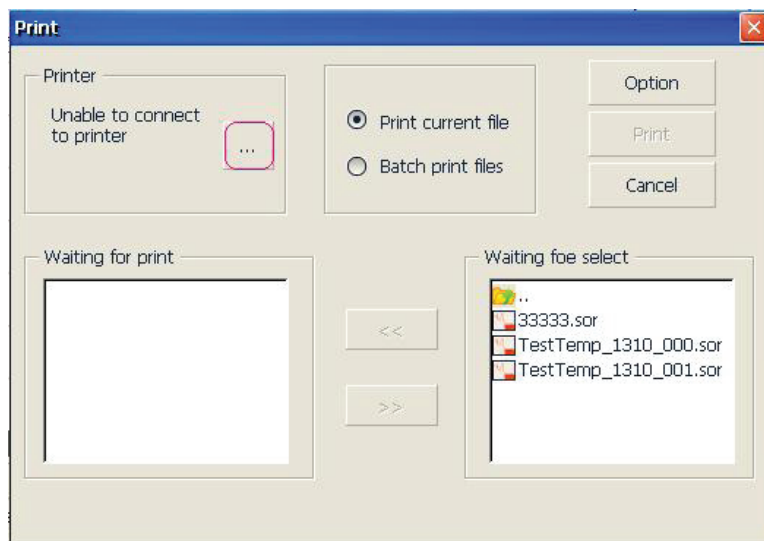

Fig. 2.2 Printer and setting interface
4. Click the  button on the lower-right corner of the screen. Enter the {Print} interface. (See Fig. 2.2)